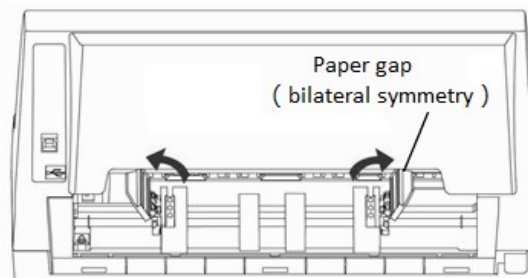

Fig. 2-9
- 6) Move the feeder to the suitable position, meanwhile move the paper guide to the middle of the two feeders. Open the paper gap in the direction of the arrow as Fig.2-9.